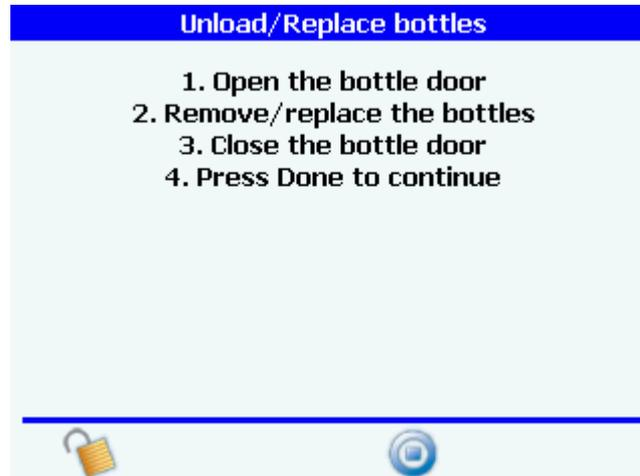

Figure 6-12 Unload/replace bottles dialog box
Unload bottles button takes you to the unload/replace bottles dialog box. See Figure 6-12, page 95.
- 12) When the unload/replace bottles dialog box appears, follow the instructions for unloading or replacing bottles, then press the done icon. See Figure 6-12.